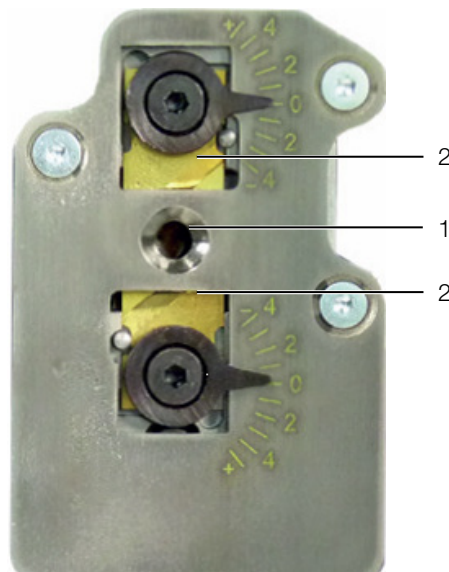

Fig. 19: Stripping unit
- Clean the area around the hole (fig. 19, item 1) with a brush.
- Check the blade (fig. 19, item 2). If necessary, replace the blades (see section 8.3 "Replacing the stripping blade").